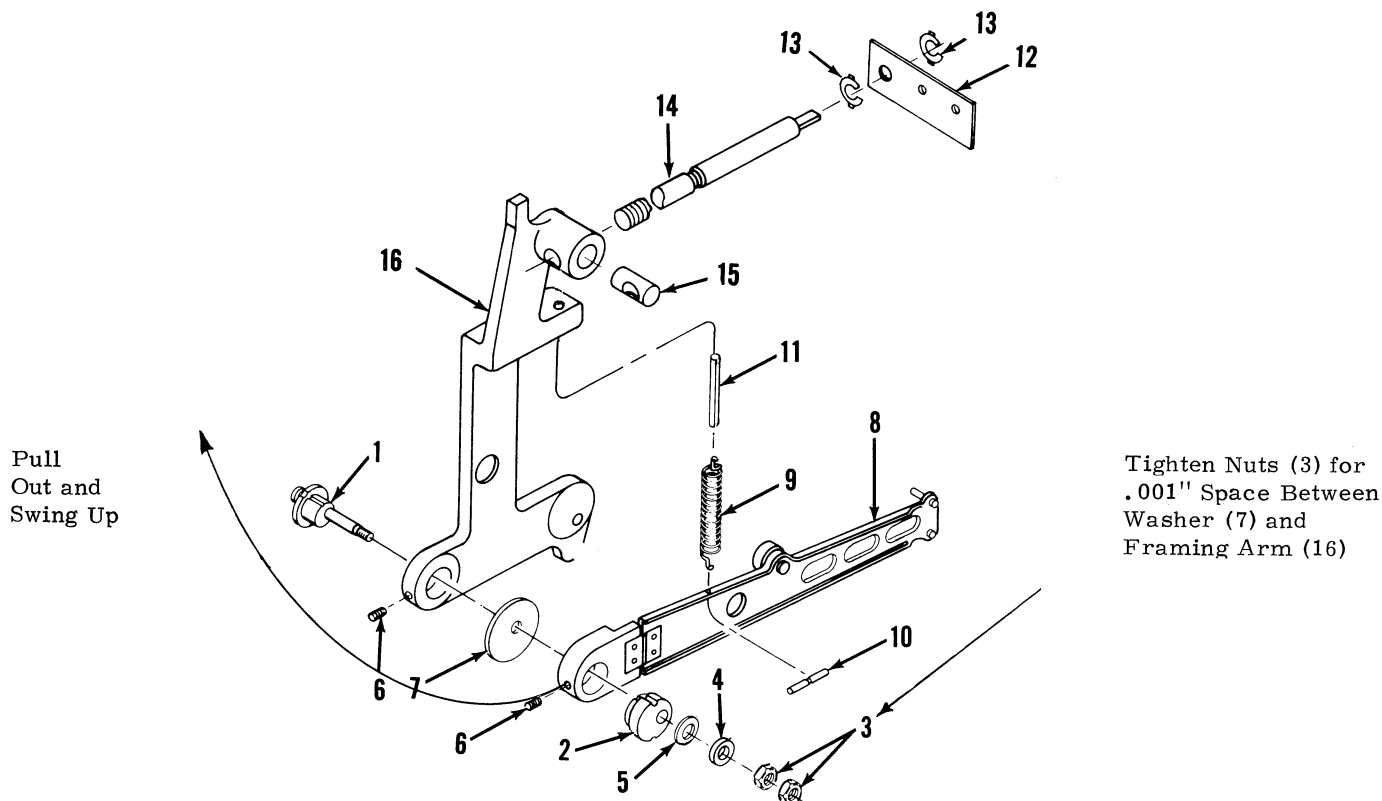

Figure 3-5. DISASSEMBLY AND REASSEMBLY
2. Check Pin (10) (Figure 3-5) to be sure it is in position under edge of Claw Arm (58) with its groove at the spring (Lubricate Pin (10) with DC44).
Removal of Claw Arm (Figure 3-5)
Reassembly of Claw Arm to Projector (Figure 3-5)